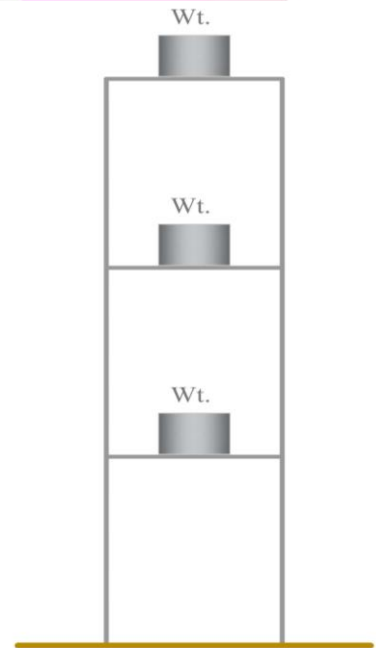

Fig: 4.1
- For the shake table test, the steel blocks (weights) will be placed on the foam-board floor and roof as shown in Figure 4.1.